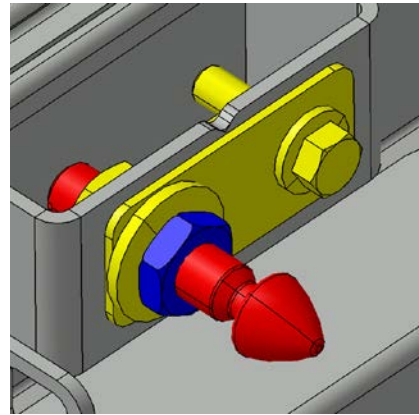

FIGURE 58
15. Use the pin to adjust the door so it is even with the adjacent steel sheet. Screw or unscrew the pin as required and then apply final tightening to the jam nut (FIGURE 58).